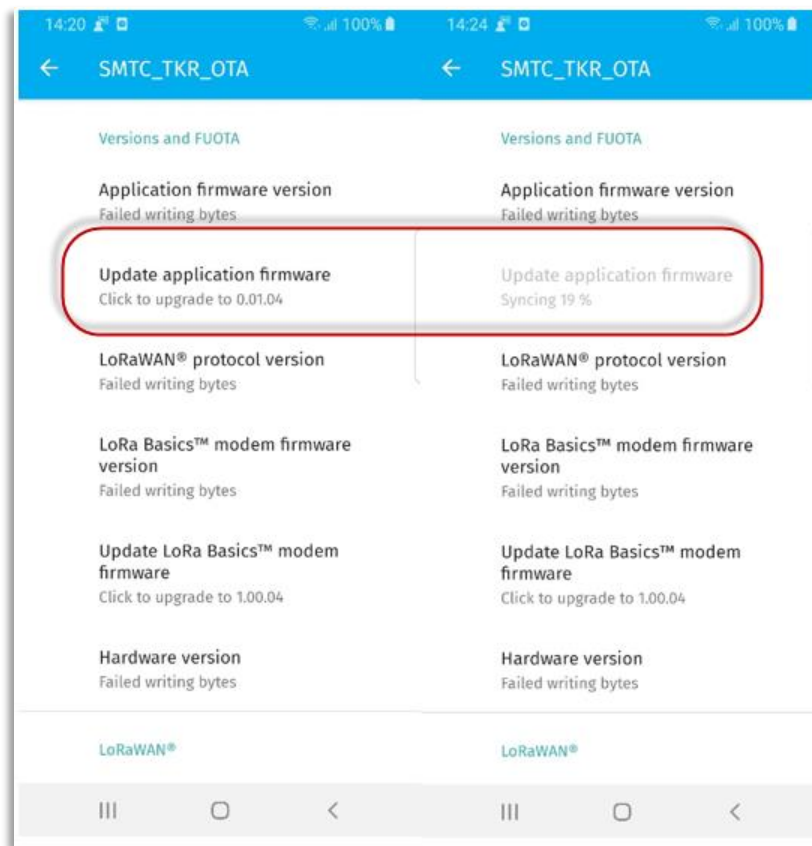

Figure 55: Flashing the Application from the Bootloader
- Once connected to the tracker the app will fail to retrieve the LoRa Tracker configuration parameters but you will be able to update the application firmware, as shown in Figure 55.